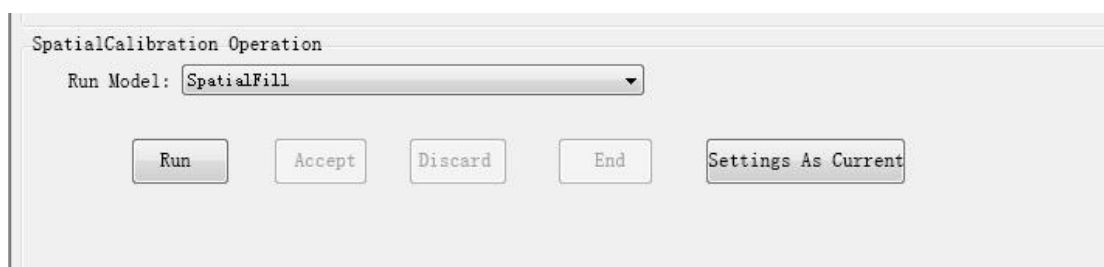

Figure 15. Spatial Calibration
(2) Choose the appropriate operation model in the "Operation Model" drop-down list of "Space Calibration Operation" at the lower left of the interface. If the capillary array contains fresh gel, no need to inject gel into the capillary, choose "No Spatial Fill". Otherwise, choose "Spatial Fill" to fill the capillary with fresh gel. As shown in Figure 15.